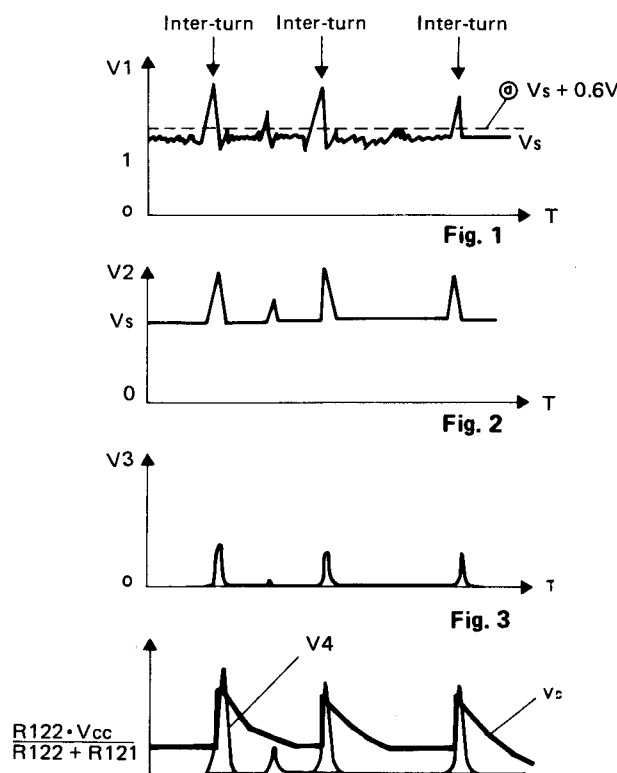

Fig. 4
- 5) By amplifying this via A3, the waveform shown as V_4 in Fig. 4 is obtained: V_c is obtained by peak-holding this.